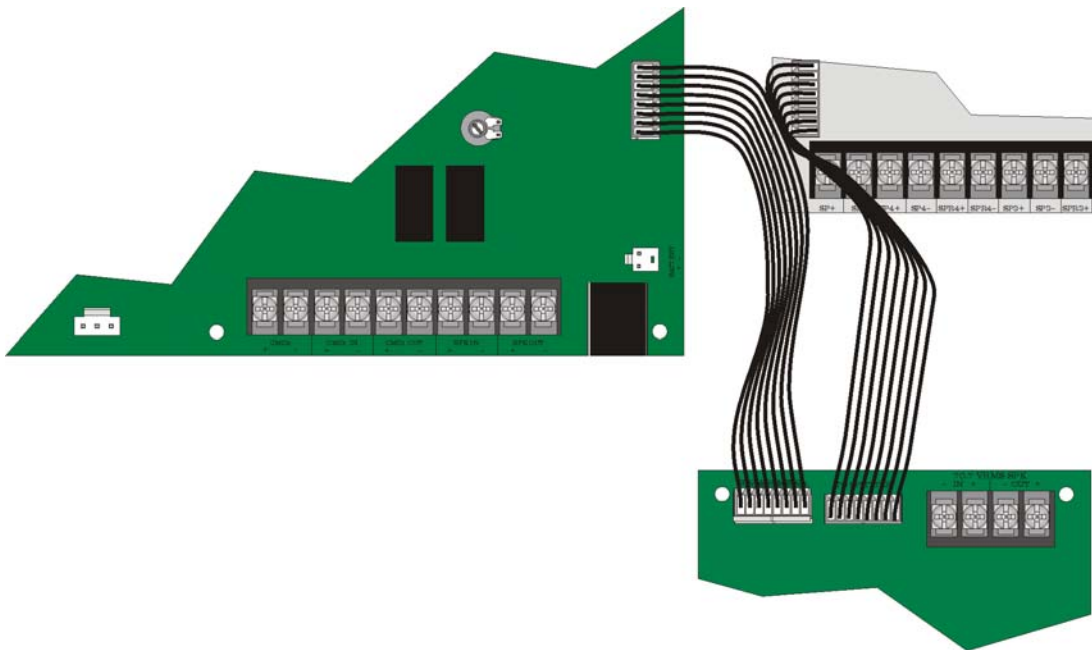

Figure 7-3 Wire Harness Connection From the Main Control to the SKE-V70
Connect the SKE-V70 to the main control panel using the supplied wire harness. See Figure 7-3.
1. Connect one harness from the main control to the SKE-V70 connector marked "FROM CONTROL". See Figure 7-3.